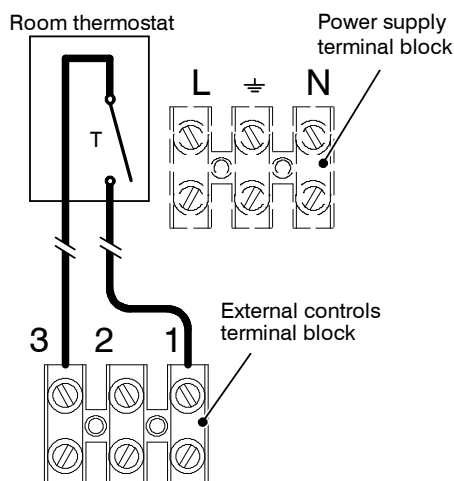

Fig. 6.13
- 8 Connect the room thermostat between terminals 1 and 3 as shown in Fig. 6.13. **Do not connect live wires to terminals to which the room thermostat must be connected.**